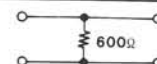

Fig. 7 Pad for Mod
- Connect the audio signal generator to the DIN connector terminal No. 1 (Fig. 4) through the 600-ohm pad (Fig. 7).